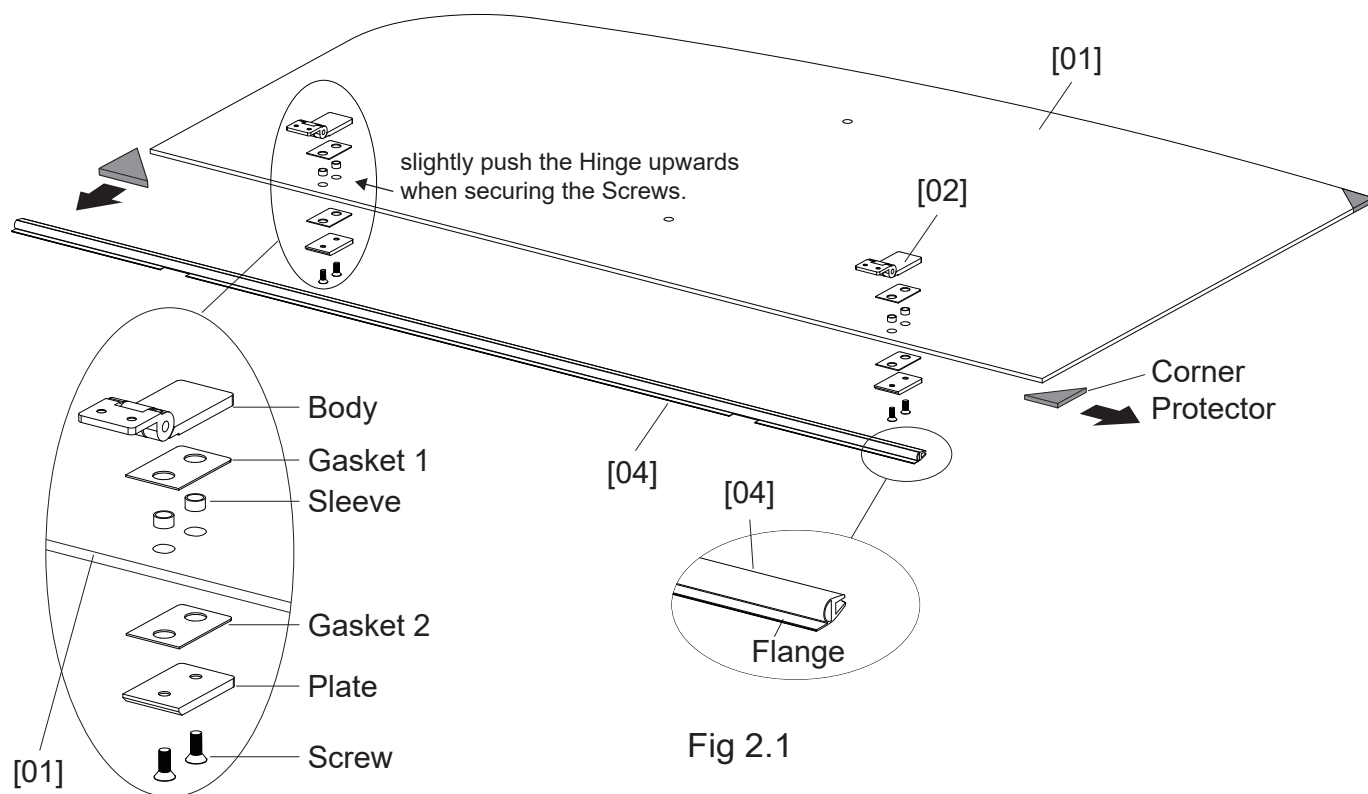

Fig 2.1
1. Lay down the **Door [01]** with blanket or foam under it. (Fig 2.1)
2. Carefully remove the **Corner Protectors** from **Door [01]**. Attach the **Side Water Sealing Strip [04]** to the **Door [01]** as the figure shows. (Fig 2.1)
3. Install the **Hinge [02]** to the **Door [01]** as the figure shows. (Fig 2.1)